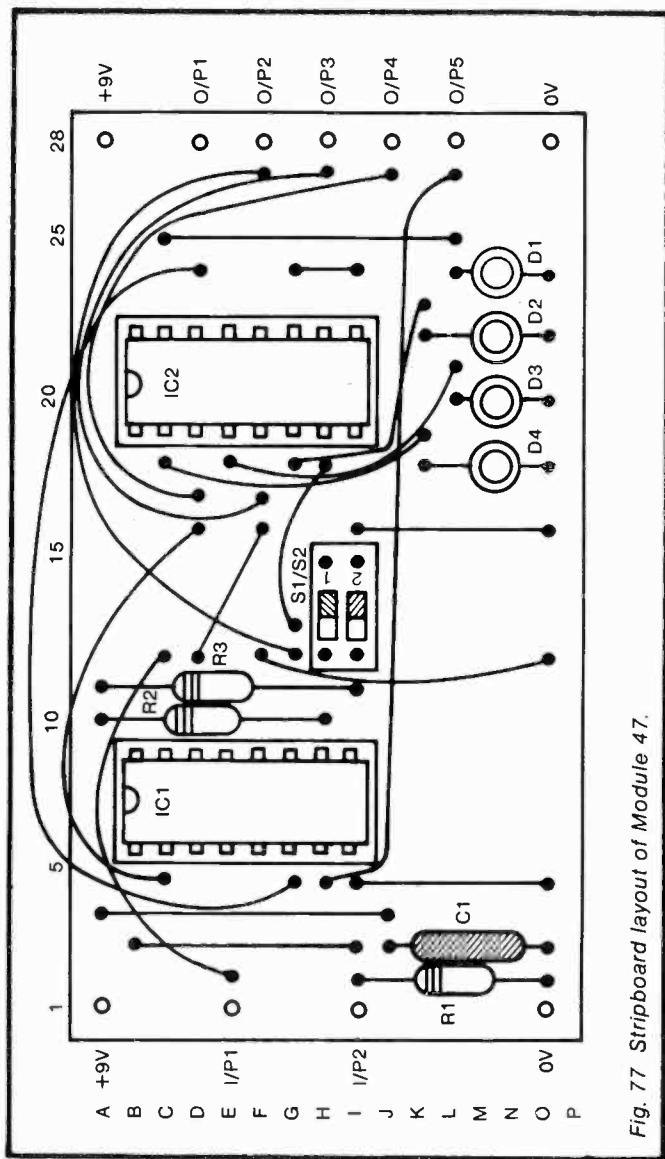

Fig. 77 Stripboard layout of Module 47.
*Stripboard layout:* see Figure 77. Cut strips beneath the board at B7 to D7, G7 to I7, E3, I4, B13 to F13, G14, H13, I13, H17, B20 to H20, F26, H26, J26, L26, K21, L23. Solder blobs join A9 to B9, A19 to B19, H15 to I15, D6 to E6 to F6, E9 to F9.